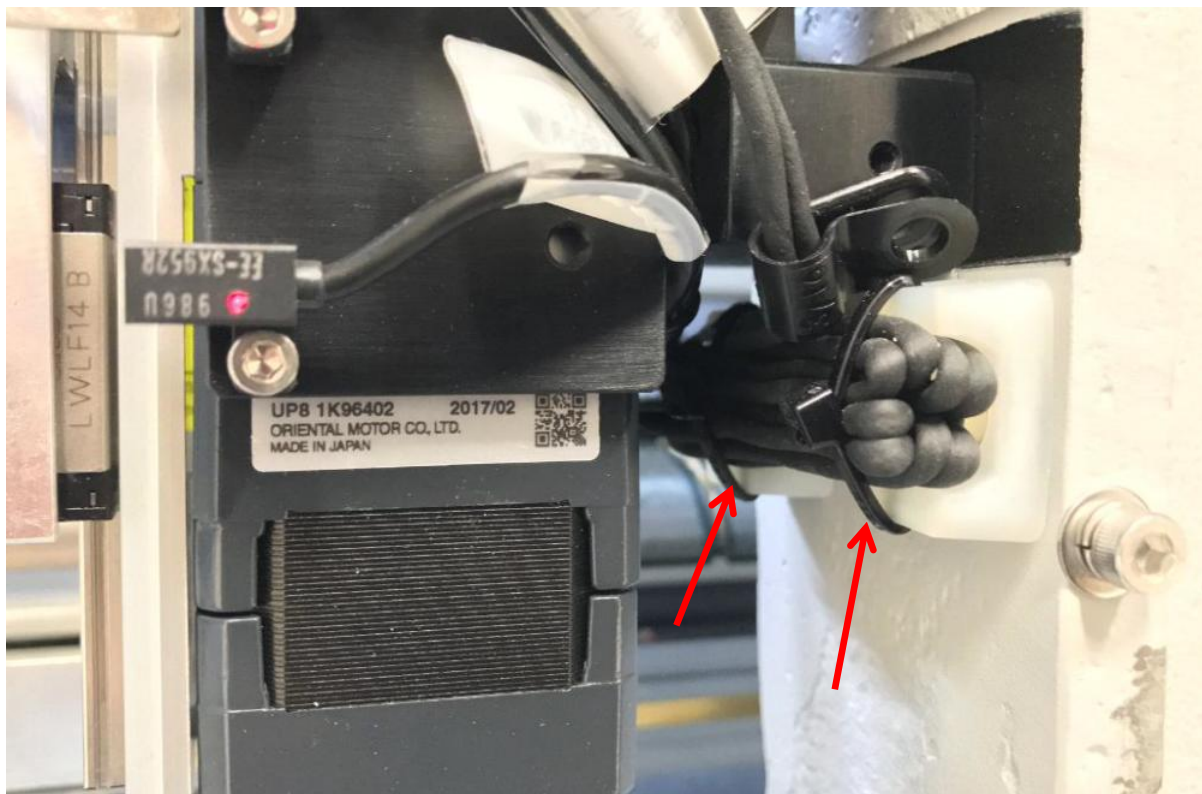

Figure 16
18. Perform cable dressing on excessive cable. Use 2 x Cable Tie to tie up excessive cable at Cable Holder (White Colour). May refer to below Figure 16.